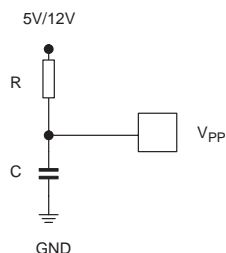

Figure 1.
2.) Make V_{PP} rise slower with respect to V_{CC} during Power-up while $\overline{\text{PSEN}}$ is low by permanently connecting an RC circuit to V_{PP} as shown in Figure 1.